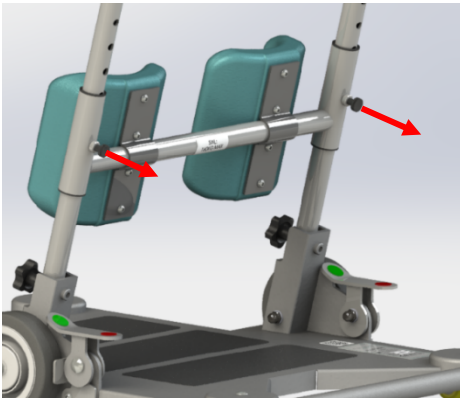

Figure 11
1. On the rear face of the product release the Knee/shin pad from its current location by pulling on the black locking plungers and the same time. (see Figure 11)